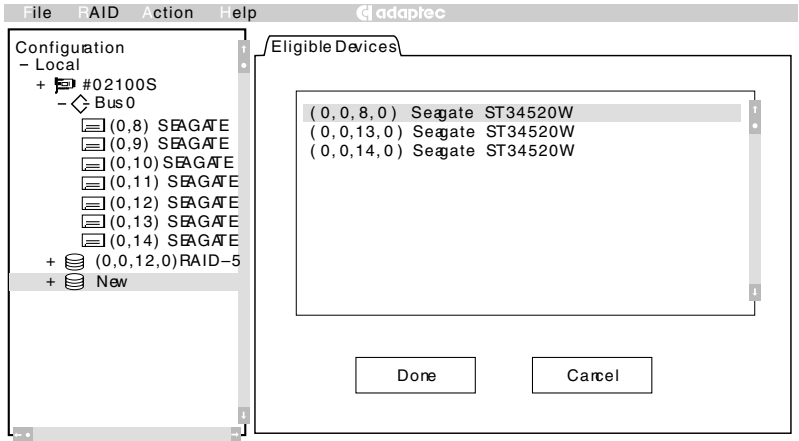

Figure 2-16. Eligible Devices Tab
- b The Eligible Devices tab appears, as shown in Figure 2-16. The list of eligible devices can be either individual hard drives or previously created array groups. Array groups appear in the list when you select RAID 0 and eligible array groups exist.